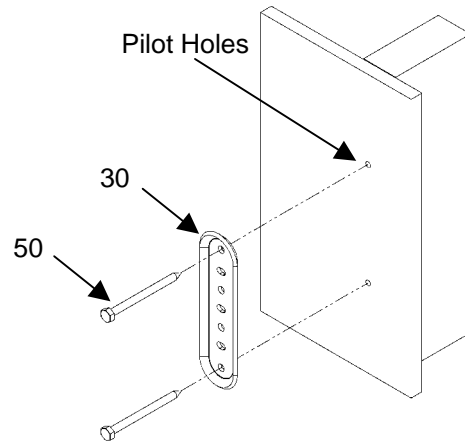

Figure 4. Secure Wall Bracket to Wall
2. Using wall bracket (30) as a template, mark two pilot holes. (See Figure 4).